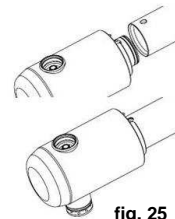

fig. 25
- Push the outlet part up to the stop onto the whipping pipe and push in locking device into the outlet part. (fig. 25)